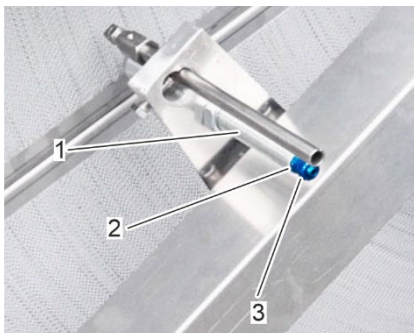

Fig. 59: Compressed air nozzle union nut
2. Loosen the union nut (Fig. 59/3) from the screw-in stud (Fig. 59/2) on the compressed air nozzle (Fig. 59/1).